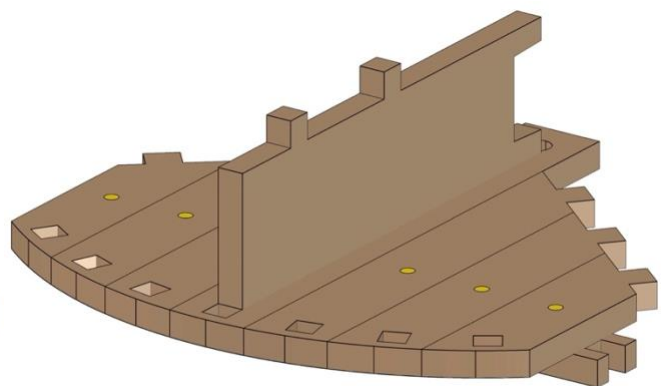

Fig. 76
- Fig. 76 shows the completed process.